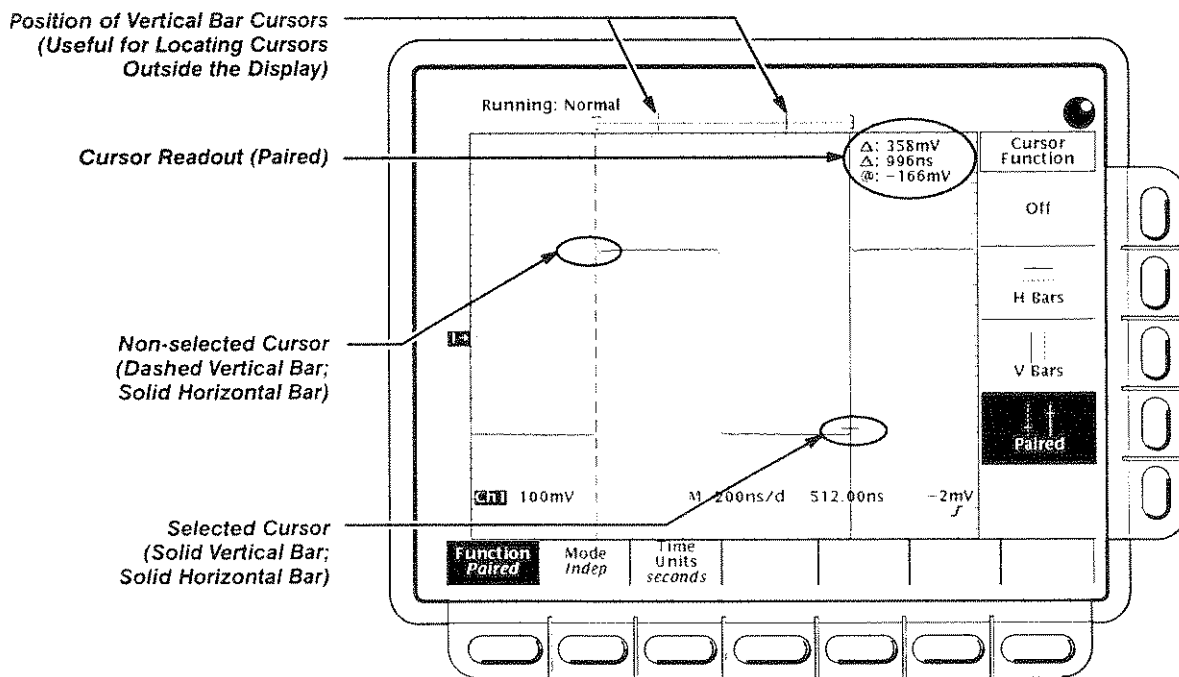

Figure 3-8: Paired Cursor Menu and Readouts
- **Paired:** the value after one  $\Delta$  shows the voltage difference between the two short horizontal bars; the other  $\Delta$  shows the time (or frequency) difference between the two long vertical bars. The value after @ shows the voltage at the short horizontal bar of the selected cursor relative to ground (see Figure 3-8).